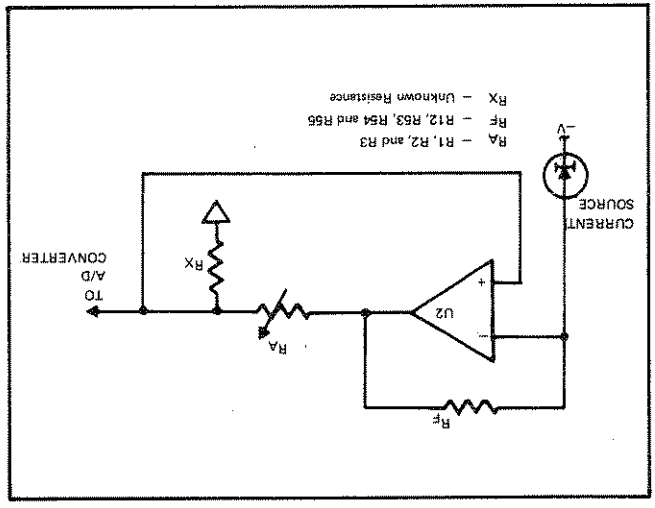

Figure 3-3. OHMS CONVERTER SIMPLIFIED DIAGRAM
3-25. The Ohms Converter supplies a dc voltage, proportional to the unknown resistance (RX), to the A/D Converter. A simplified diagram of the circuit elements involved is illustrated in Figure 3-3. Operational Amplifier U2 bootstraps the current source. With the non-inverting input connected to the junction of RA and RX, current will flow through RA and RX such that a constant voltage is maintained across RA for a given RANGE. If RX is within the range selected, the voltage developed will be proportional to the value of RX. For resistance ranges 200 ohms through 2000 kilohms, the constant voltage maintained is 10 volts. In the 20 megohm range, U2's feedback resistor, RF, is changed so that a 1 volt potential is maintained.